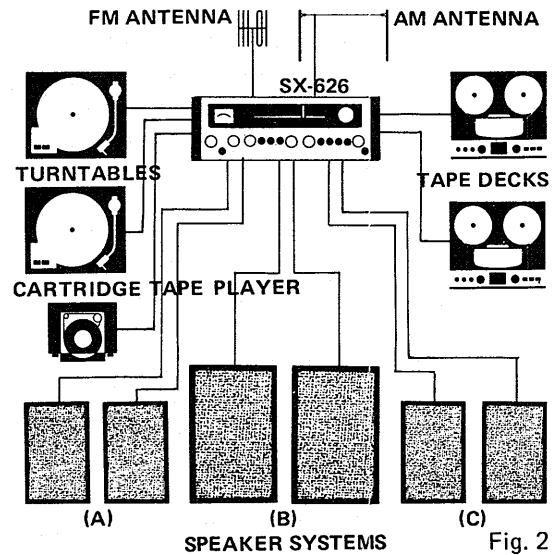

Fig. 2
- Model SX-626 is a Stereo Receiver, i.e. it combines an AM/FM stereo tuner, a preamplifier and a power amplifier in one unit. To obtain a complete stereo system, it can be combined with 2, 4 or even 6 speakers, 1 or 2 turntables, 1 or 2 tape decks, etc. See Fig. 2.